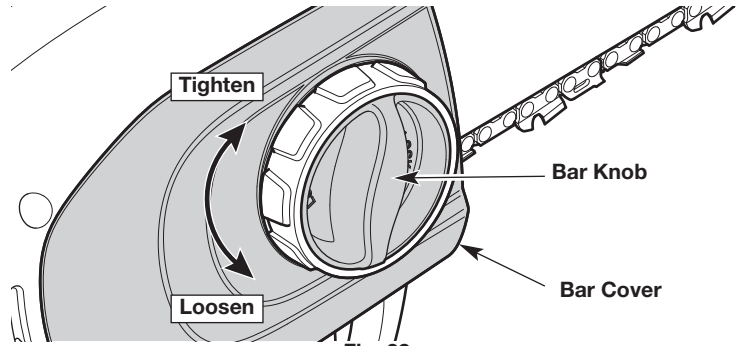
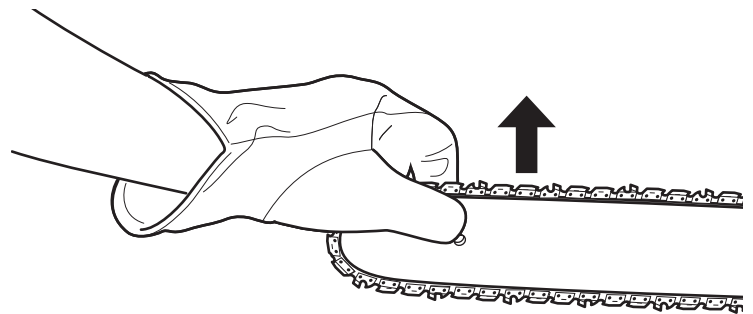
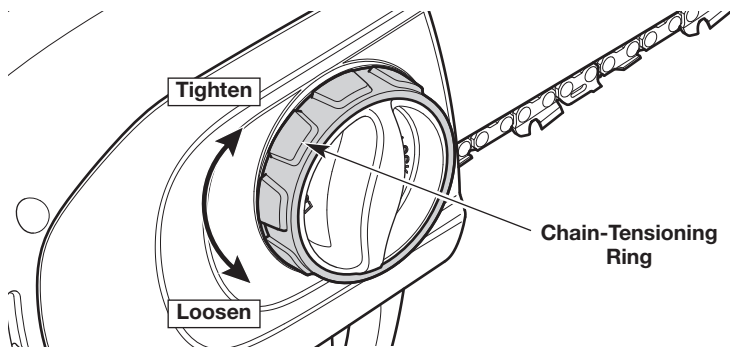
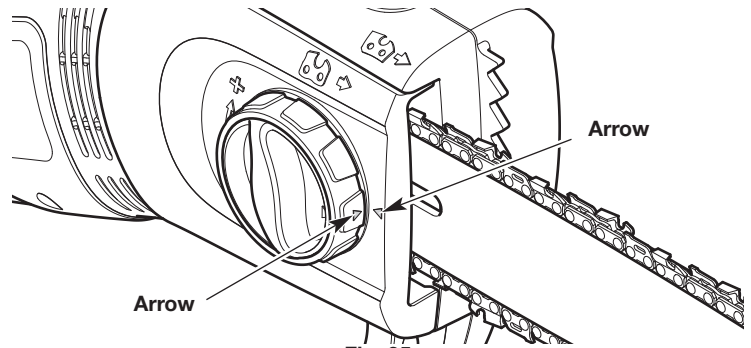

Fig. 28
Fig. 29
Fig. 30
Fig. 35
1. Turn the bar knob counterclockwise to slightly loosen the bar cover (Fig. 28). **DO NOT** remove the bar cover.
2. Hold the guide bar tip up (Fig. 29) and turn the chain-tensioning ring to adjust the tension (Fig. 30).
3. Continue to hold the guide bar tip up (Fig. 29). Turn the bar knob clockwise to securely tighten the bar cover (Fig. 28).
1. Turn the bar knob counterclockwise to loosen the bar cover (Fig. 28).
5. Turn the chain-tensioning ring (Fig. 30) until the arrow on the chain-tensioning ring aligns with the arrow on the bar cover (Fig. 35).
7. Turn the chain-tensioning ring (Fig. 30) clockwise until the bar cover is connected to the motor housing and the guide bar begins to move forward.
8. Turn the bar knob clockwise to tighten the bar cover (Fig. 28). **DO NOT** tighten the bar knob completely.
10. Hold the guide bar tip up (Fig. 29). Turn the bar knob clockwise to securely tighten the bar cover (Fig. 28).